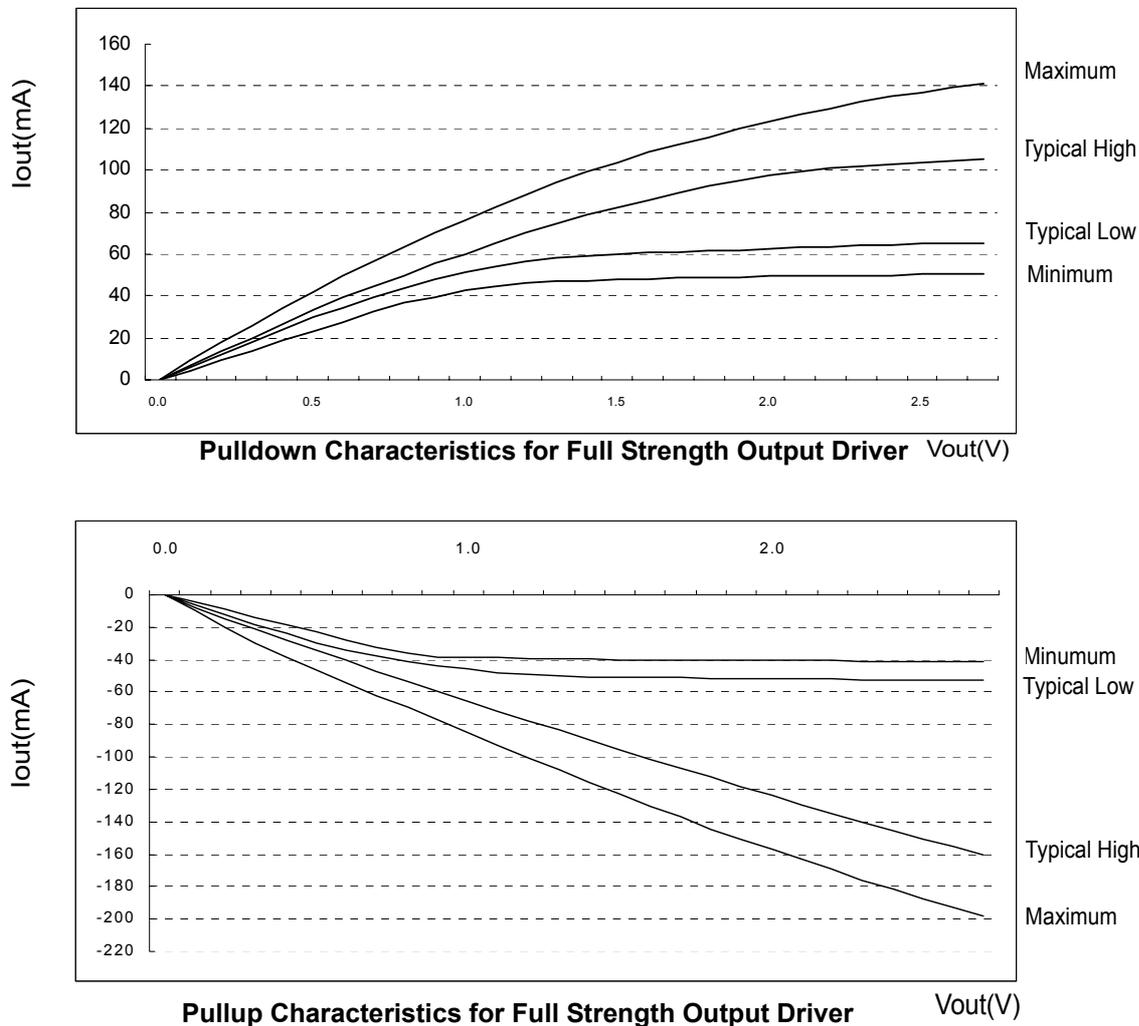

Figure 4. I/V characteristics for input/output buffers: Pulldown (above) and pullup (below)
Figures 4 and 5 show the driver characteristics graphically, and tables 8 and 9 show the same data in tabular format suitable for input into simulation tools. The driver characteristics evaluation conditions are:
1. The full variation in driver current from minimum to maximum process, temperature and voltage will lie within the outer bounding lines the of the V-I curve of Figures 4 and 5.
2. It is recommended that the "typical" IBIS V-I curve lie within the inner bounding lines of the V-I curves of Figures 4 and 5.